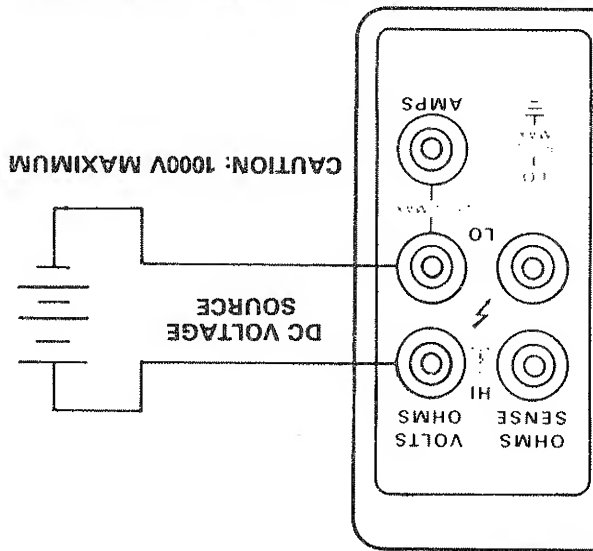

Figure 2-6. DC Voltmeter Measurements (Front Panel Connections Shown)
7. Connect the test leads to the source as shown in Figure 2-6.